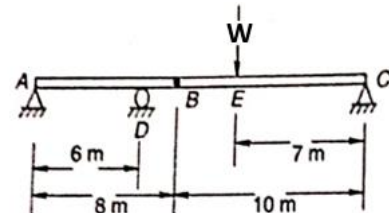

Fig. 2
2. Two beams AB and BC of length 8 m and 10 m respectively are hinged at B. These are supported on roller at D and hinged at ends A and C. A roller support is provided at D, 6 m from A as shown in Fig. 2. Using the principle of virtual work, determine the force transmitted by the hinge B and the reaction at the support D, when a load W of 1500 N acts at a point 7 m from D as shown in the Fig. 2.